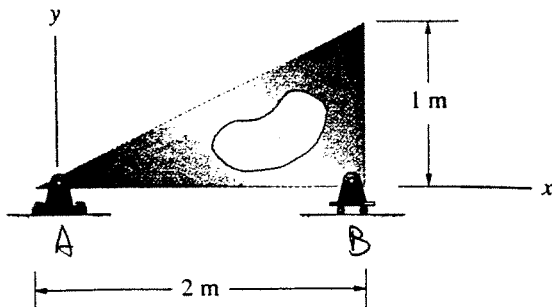

Fig. 2
30 (2) The plate in Fig. 2 is of uniform thickness and is made of homogeneous material whose mass per unit area of the plate is  $2 \text{ kg/m}^2$ . The vertical reactions at  $A$  and  $B$  are 6 N and 10 N, respectively. What is the  $x$  coordinate of the centroid of the hole?